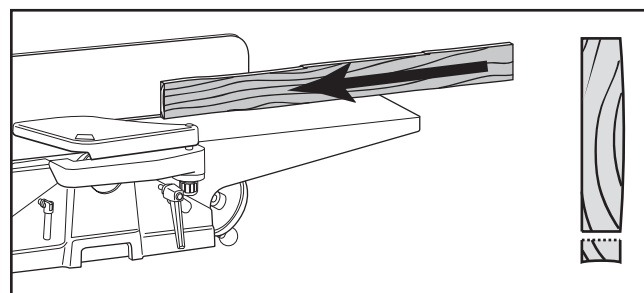

Figure 42. Edge jointing on jointer.
1. Edge joint concave edge of 2x3 flat on jointer, as shown in **Figure 42**.